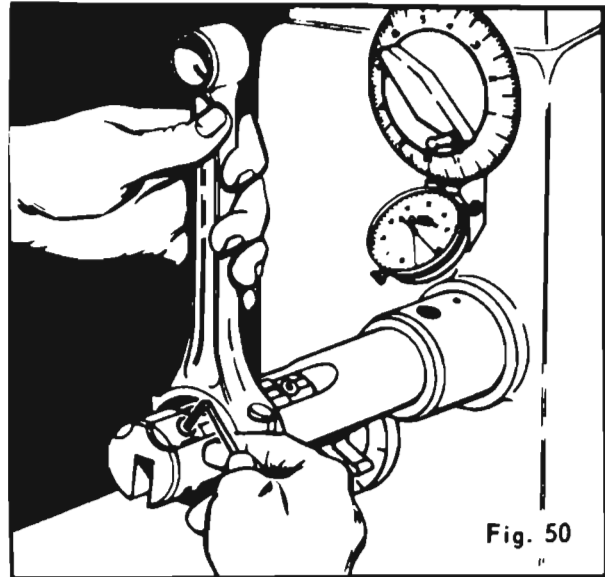

Fig. 50
4. Rotate machine spindle by hand until mandrel shoes are on top. Loosen the four shoe clamp screws about 1/2 revolution with wrench provided. Place con rod vertically on mandrel at center of shoes (Fig. 50). Fully depress Pedal and keep it fully depressed until screws are tightened. Expand stone by turning Feed Dial clockwise until con rod is held firmly on honing unit. Slight tapping on end of con rod will aid in seating shoes. Tighten all four shoe clamp screws firmly, *making sure each shoe contacts inside surface of hole at two points, but do not overtighten screws*. Back off Feed Dial until Honing Dial reads zero with Pedal still fully depressed.